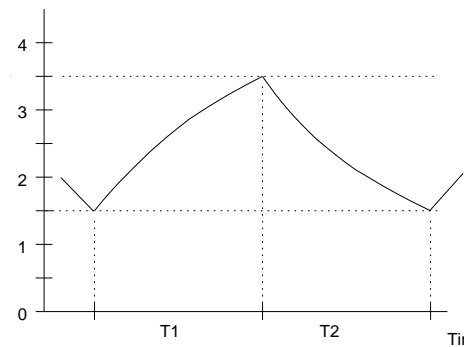

Figure 29: Oscillator Waveform
- When the output is low, the capacitor C1 discharges down to the lower trip level, and the Schmitt trigger changes state to make the output high again. The resultant waveform is shown in figure 29.